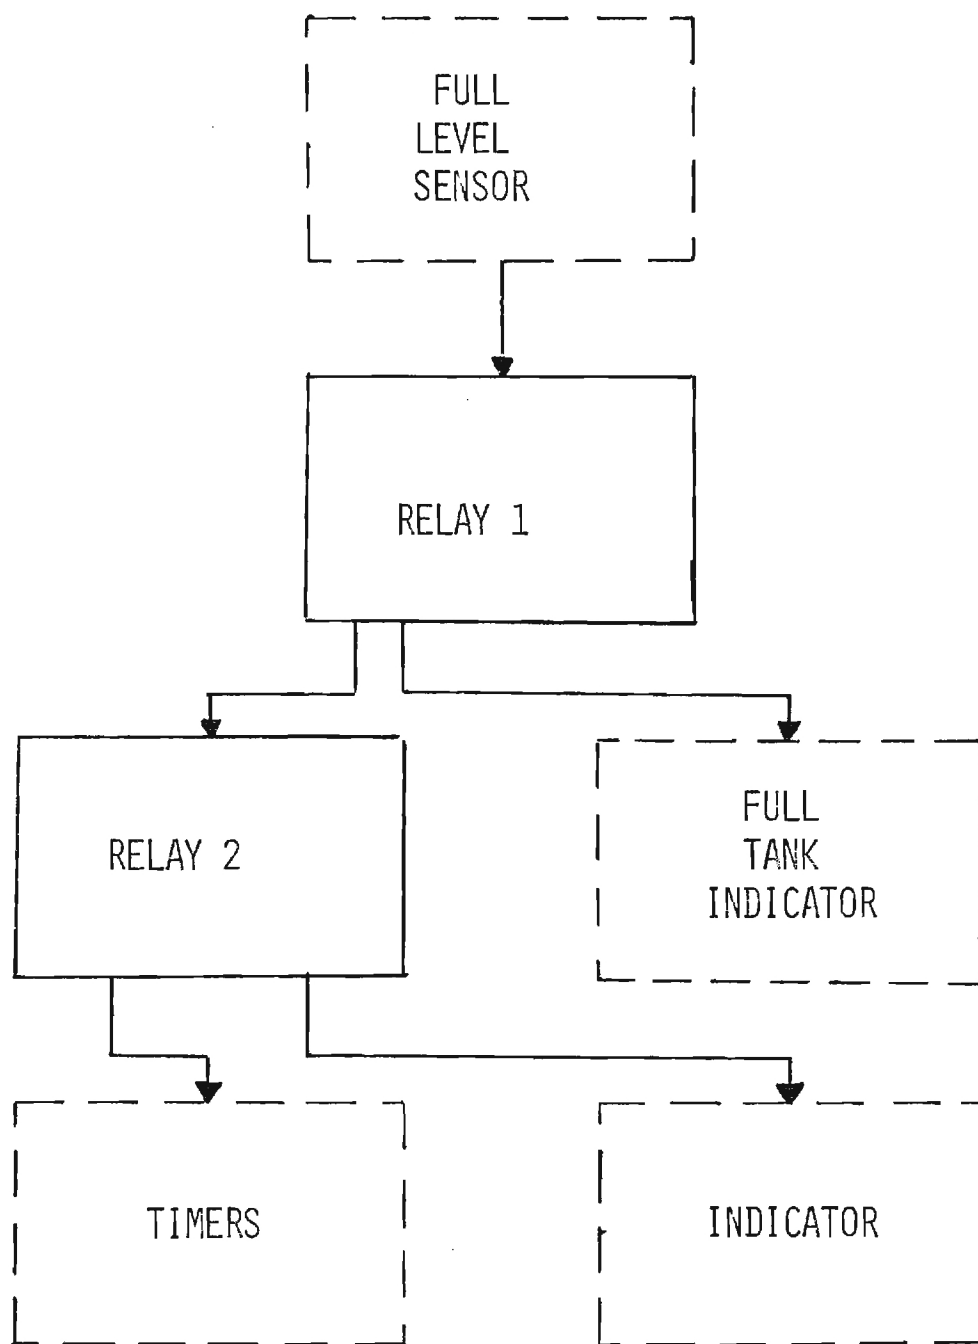

FIGURE 14. FUNCTIONAL BLOCK DIAGRAM P/N 103718
2. The functional block diagram for P/N 30718 (see Figure 14) shows the general operation of the control logic board. More specific information can be obtained from the schematic (see Figure 4) and the following description of component function.